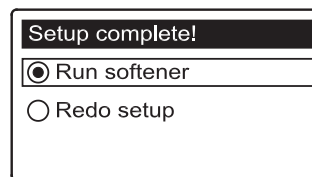

FIG. 32
- Press the SELECT (○) button. The screen will show “Setup complete!” (See Figure 32).
- If no changes are desired, make sure **Run softener** has a black dot next to it (See Figure 32) and press the SELECT (○) button. The unit begins normal operation, described on Page 23.